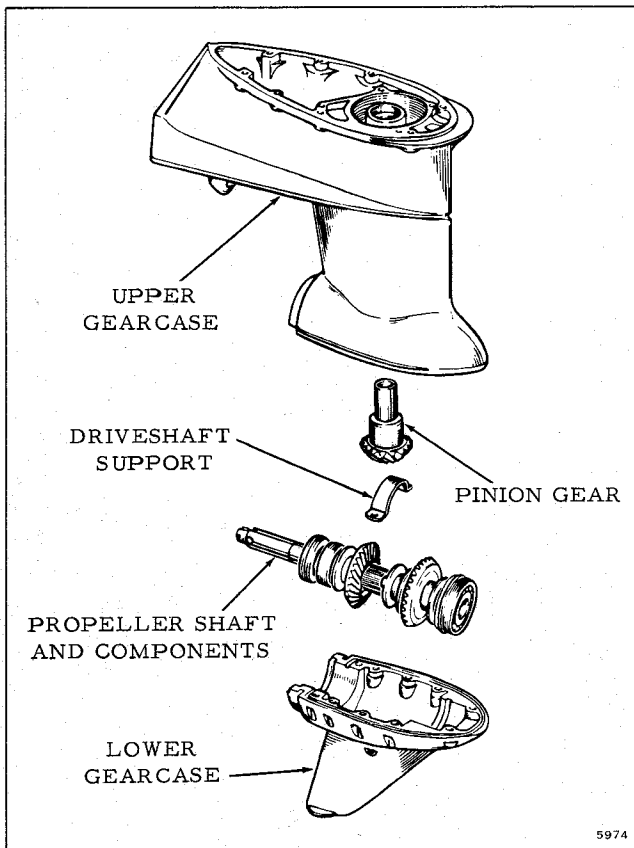

Figure 6-24. Removing Propeller Shaft and Gear Assembly
d. The propeller shaft with all components can be lifted out as a unit. See Figure 6-24.